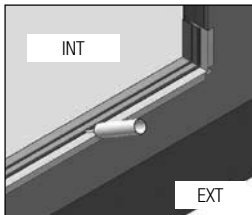

FIG. 10
- G) Apply two continuous, straight beads of 100% neutral cure silicone sealant to the subfloor to seal the sill to the subfloor. (Fig 10 & 11)